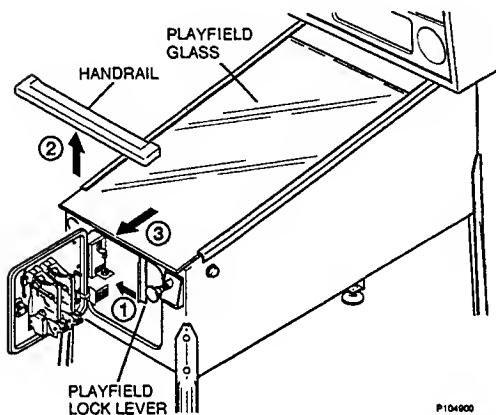

FIGURE 9: REMOVING PLAYFIELD GLASS
16) Open the coin door. Locate lock lever and pull towards center of cabinet; remove handrail and set aside. Remove playfield glass by sliding down and out of armor guides. **CAREFULLY** set glass aside (see Figure 9). Remove foam packing from Captive Ball.